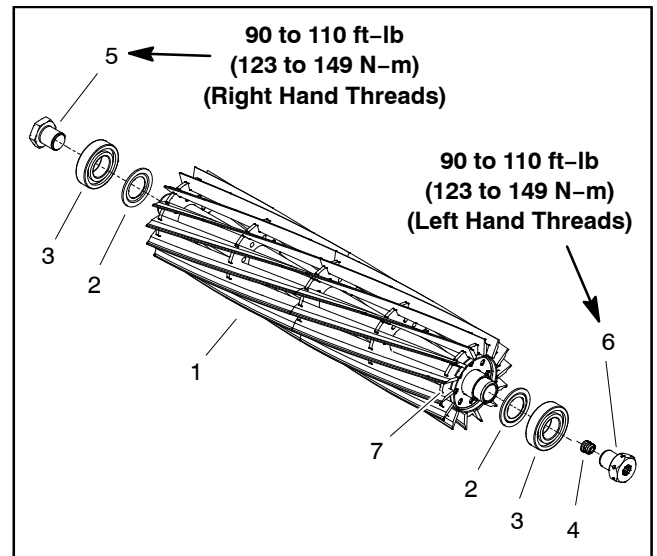

Figure 26
4. Remove two (2) cap screws and nuts that secure weight (item 10) to the RH side plate. Remove weight assembly (items 10 and 20) from the cutting unit. Remove and discard O-ring from weight.
5. If bearings or seals are to be removed from cutting reel, put a block of wood between the cutting reel blades to prevent the reel from rotating. Loosen bearing lock nut (RH threads) and reel nut (LH threads) to allow easier removal after reel assembly is removed from cutting unit (Fig. 26).
8. Remove washer head screws (item 3) that secure crosslink (item 15) to pitch arms. Remove crosslink.
10. Remove shoulder bolts (item 4) and flange nuts (item 5) that secure the LH side plate to the cutting unit crossmember. Remove the LH side plate from the reel shaft, rollers, bedbar and cutting unit crossmember. Locate and remove flat wire spring (item 14). Remove pitch arm (item 7) from side plate.
3. Position the cutting unit on a flat work area. The rollers, bedbar and cutting unit crossmember should be attached to RH side plate. Make sure that pitch arm (item 7) is fitted to RH side plate.
6. Install shoulder bolts (item 4) and flange nuts (item 5) to secure the LH side plates to the crossmember. Torque the shoulder bolts from **210 to 240 in-lb (24 to 27 N-m)**.
7. Position crosslink to pitch arms and secure with washer head screws (item 3).
8. If bearing lock nut (RH threads) and reel nut (LH threads) were loosened during cutting reel service, put a block of wood between the cutting reel blades to prevent the reel from rotating. Torque bearing lock nut (RH threads) and reel nut (LH threads) from **90 to 110 ft-lb (123 to 149 N-m)** (Fig. 26).